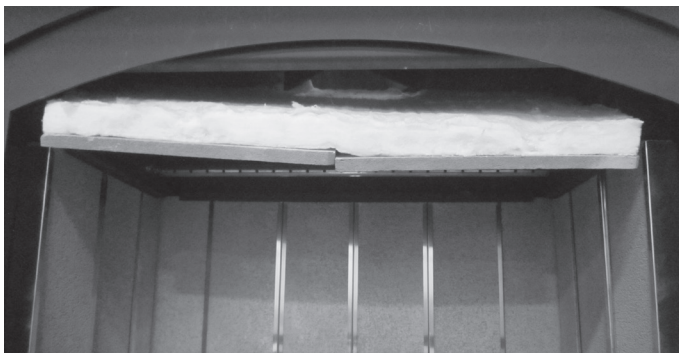

Figure 4.7
5. Pull the two (2) piece baffle board and insulation down and out of the firebox. See Figure 4.7.